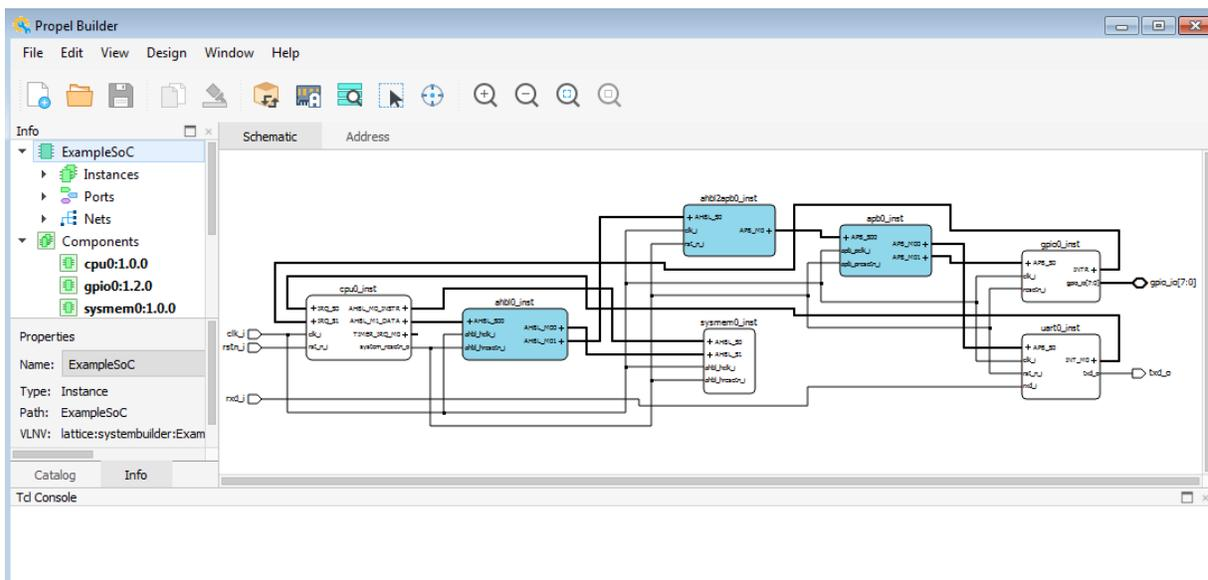

Figure 3.6. Propel Builder Window
The SoC design project is created in workbench, and its design is opened and displayed in Propel Builder (Figure 3.6).
3. SoC Design is opened and displayed in Propel Builder (Figure 3.6).